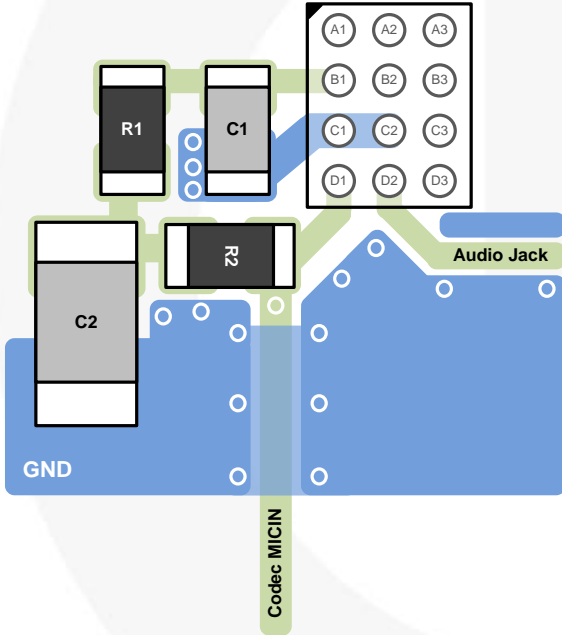

**Figure 7. MIC Bias and MIC Switch Circuit**
2. 2.2 kΩ can generally be used in applications to bias the accessory microphone. Two separate resistors totaling 2.2 kΩ with a large capacitor between them can improve noise rejection performance, as shown in Figure 7.